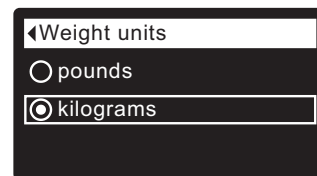

FIG. 68
5. Press the SELECT (O) button to display the Weight units menu (See Figure 68).
6. If the desired weight unit already has a dot next to it (See Figure 68), go to Step 7. Otherwise, press the DOWN (▼) or UP (▲) buttons to scroll to the other weight unit, then press SELECT (O) to choose it.
7. Press the SELECT (O) button. The display will go back to the User preferences menu.